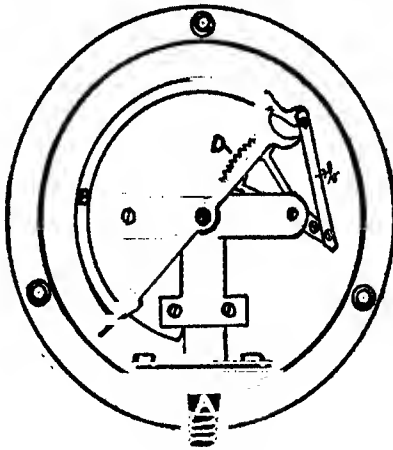

FIG. 9.—SECTION OF A SINGLE SPRING STEAM GAUGE.
**Steam Gauge.**—This is an instrument attached to the boiler for the purpose of indicating the pressure of the steam in the boiler. While there are several different types of gauges, the double-spring one is most common on farm engines. The interior construction of a single spring type is shown in Fig 9. In this design there is a small curved flattened tube B which is closed at its upper end and open at the other A. To the closed end are attached toggle levers b which are in turn fastened to a toothed segment D. This segment is in mesh with a small pinion on which a pointer is attached. The pressure entering at A has a tendency to cause the tube B to straighten itself out, which in turn imparts a movement to the pointer through the medium of the multiplying pinion, segment and toggle levers. The amount of this movement varies according to the pressure of the boiler. The pointer moves over a graduated dial